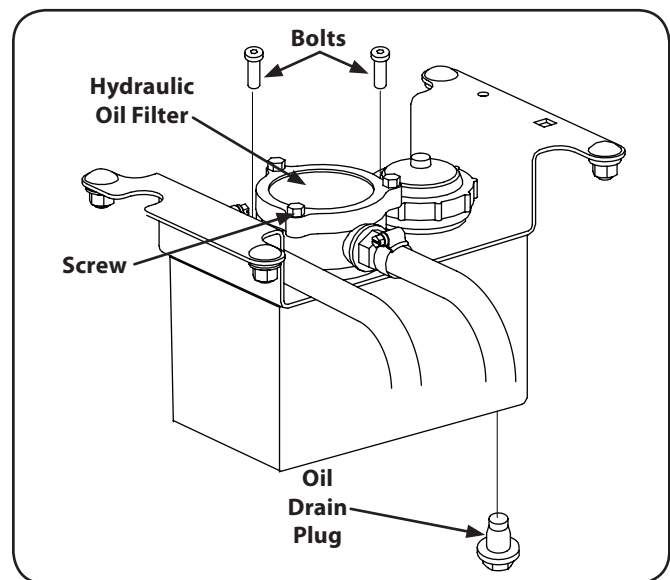

Figure 6-4
7. Remove the two bolts securing the hydraulic filter and allow the hydraulic oil to drain. Remove the drain plug from the bottom of the hydraulic oil tank to drain. Replace the plug. See Fig. 6-4.
8. Place a small pan under the pump motor frame. Remove fill oil cap from hydraulic reservoir for faster drainage. Remove nut caps and drain oil from both left and right pumps. Replace and retighten nuts. See Fig. 6-4.